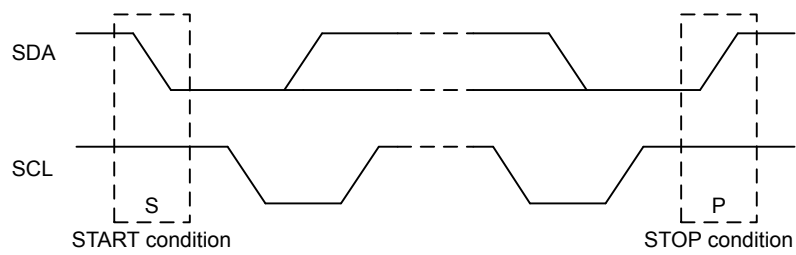

Figure 22.4. I2C START and STOP Conditions
START and STOP conditions are used to initiate and stop transactions on the I²C-bus. All transactions on the bus begin with a START condition (S) and end with a STOP condition (P). As shown in Figure 22.4 I2C START and STOP Conditions on page 691, a START condition is generated by pulling the SDA line low while SCL is high, and a STOP condition is generated by pulling the SDA line high while SCL is high.